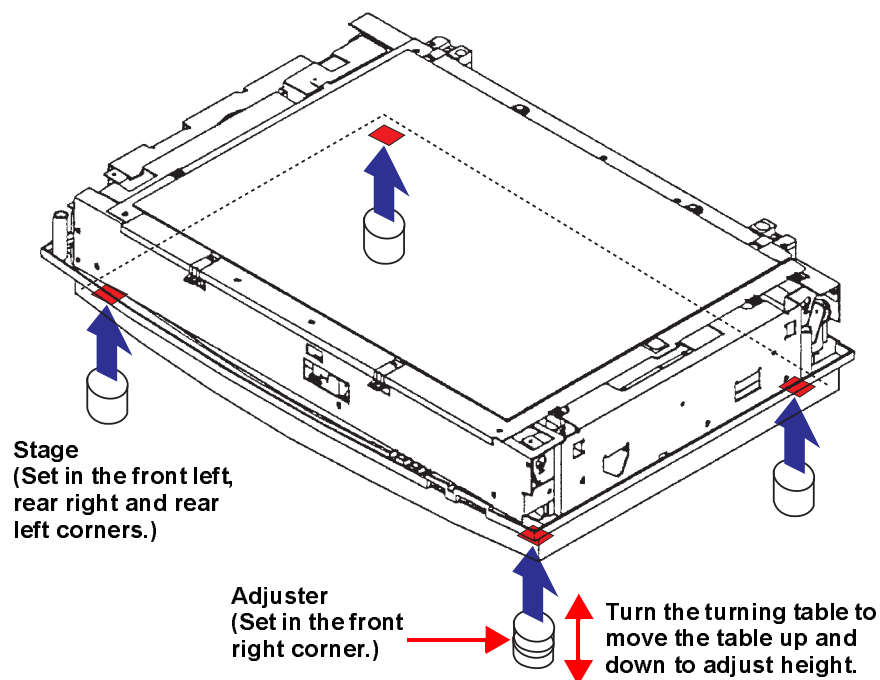

Figure 4-18. Tool Position and Adjusting Method
2. Referring to Figure 4-18, set the scanner on the adjusting tools (leveling tools) and level the scanner according to the following procedure: